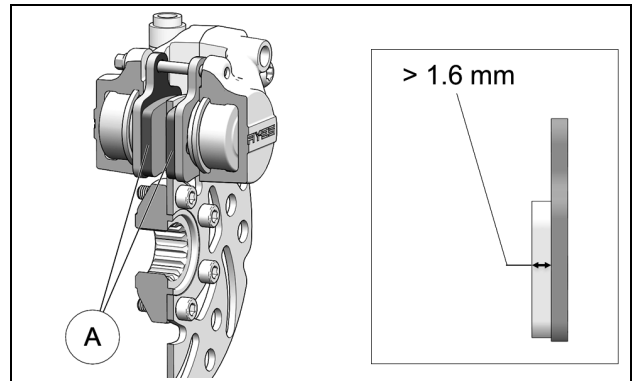

Figure 34
Inspect brake pads (A) for wear. If pad thickness is under 1.6 mm (1/16 in.), replace the parts. See Figure 34.